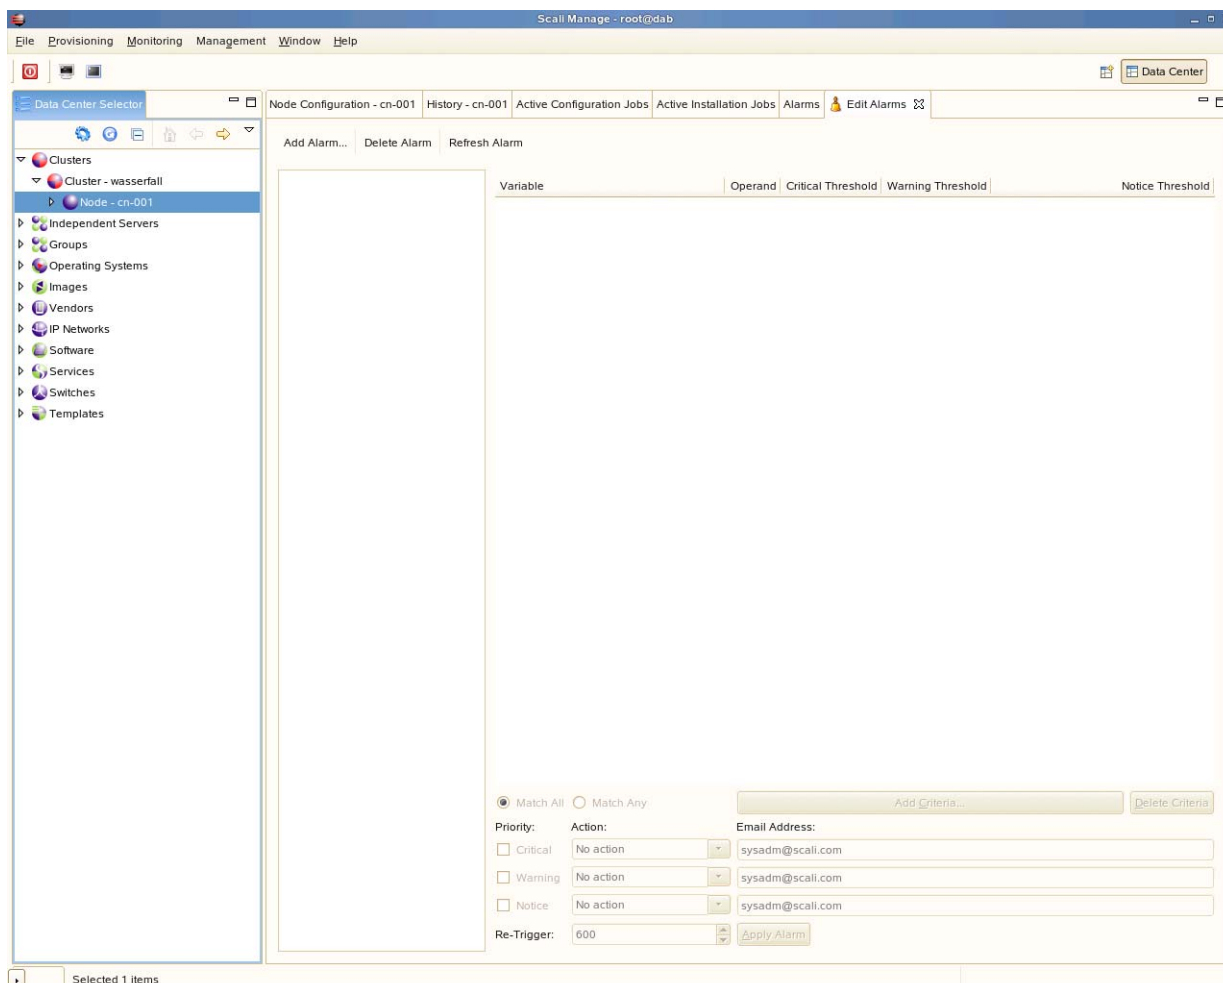

Figure 2-14 Node Selection for Alarm Function Example
3. Select a node (or list of nodes) for which you want to define the alarm, see Figure 2-14.